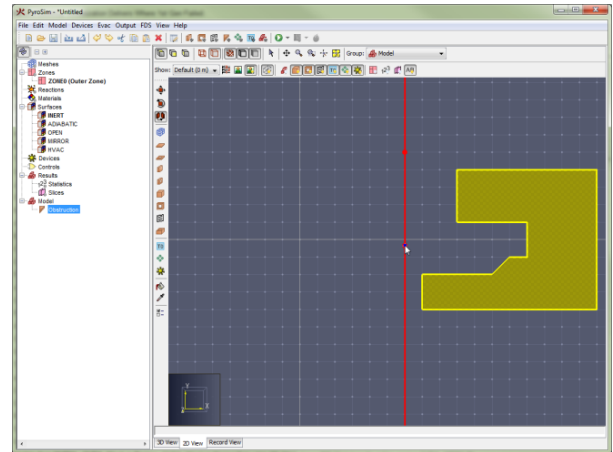

Figure 95. Define second point and mirror line
3. Use **Click-drag Mode** or **Multi-click Mode** to define two points that create a plane about which the selected objects are mirrored (Figure 95).